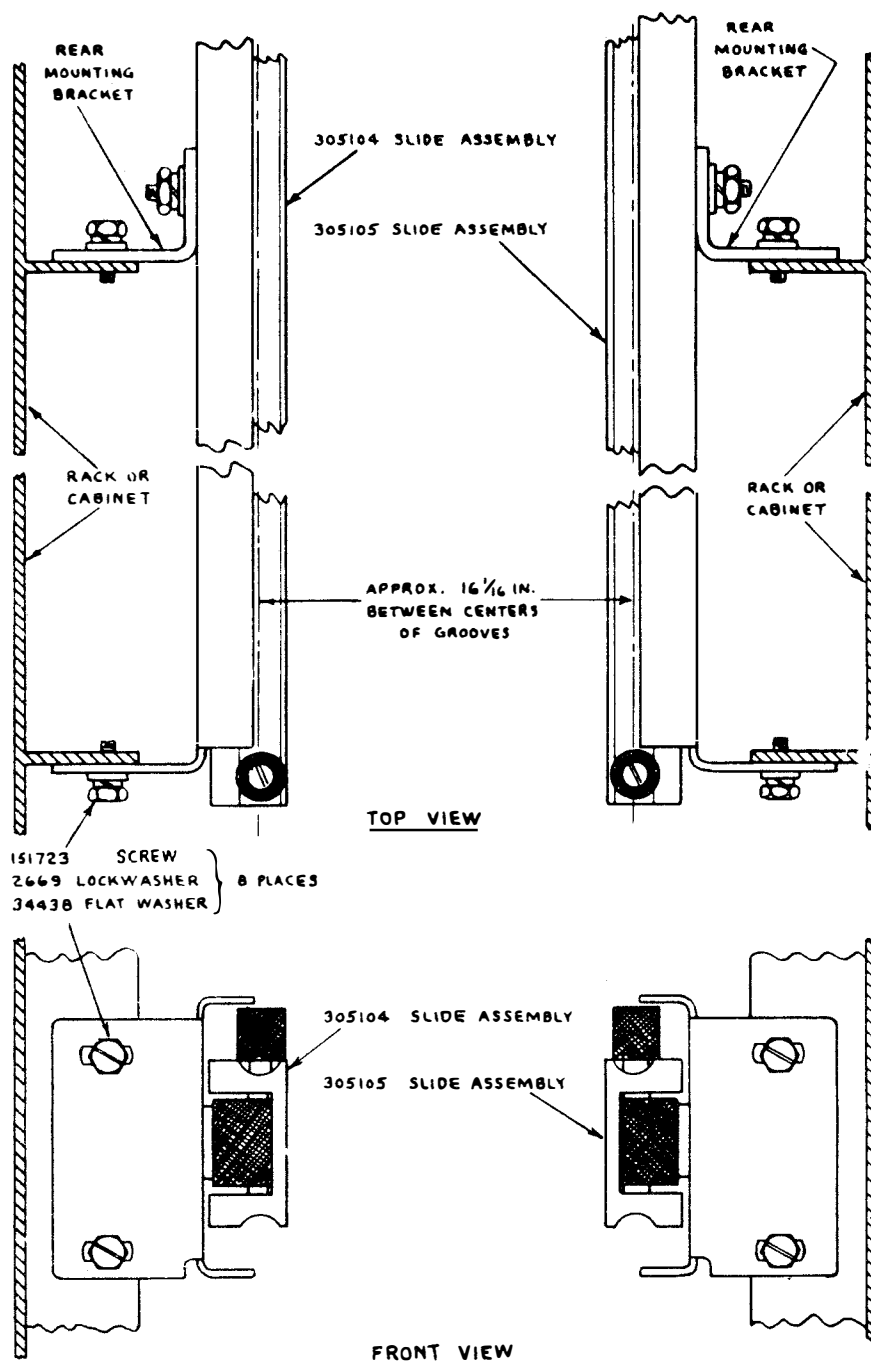

Figure 8-6. Installation of Slide Assemblies TP305104 and TP305105
- (1) Refer to figure 8-6.
- (2) Position the rear mounting brackets on both